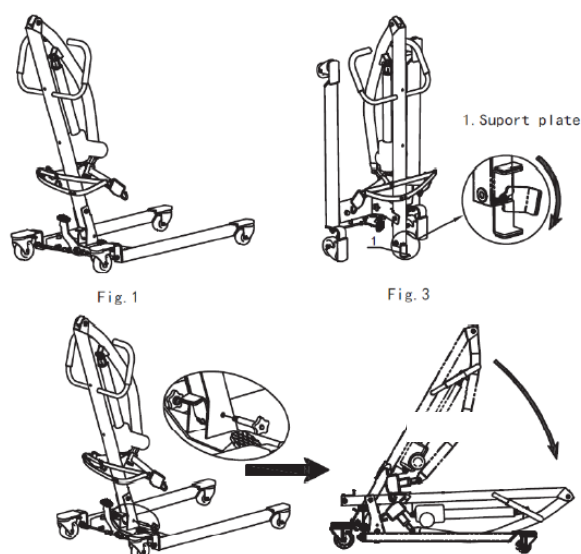

Fig. 14. Scheme of folding the elevator frame.
- The scheme of folding the frame is shown in figure 14.